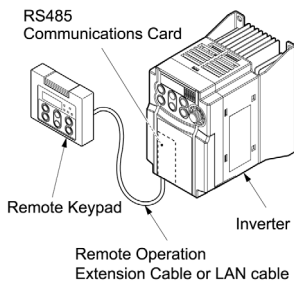
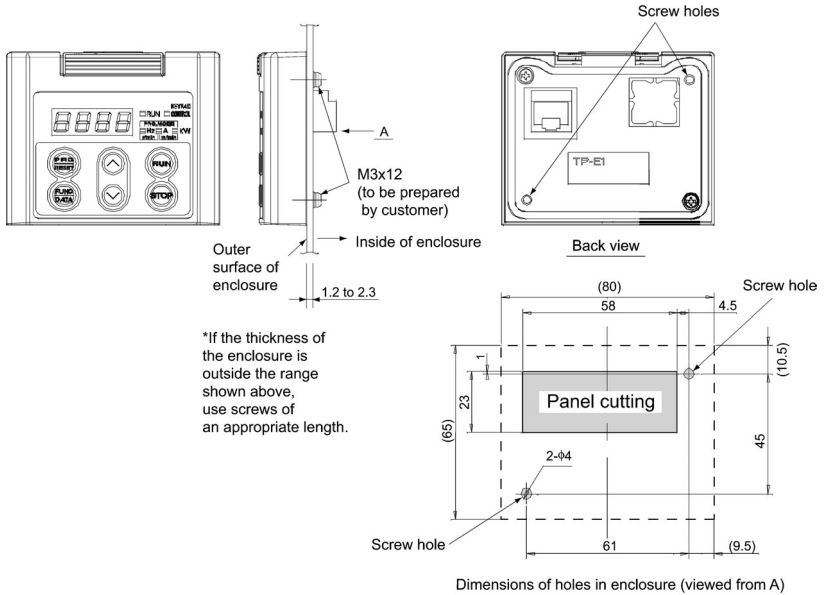

Figure 2.2 To Use the Remote Keypad in Hand
Figure 2.3 Dimensions of Square Hole and Screw Holes
- ① Cut two square holes on the enclosure as shown in Figure 2.3.
- ② Mount the Remote Keypad onto the enclosure.
- ③ Install the RS485 Communications Card on the inverter.
- ④ Insert the connector on one end of the Remote Operation Extension Cable or LAN cable into the RJ-45 modular jack on the Remote Keypad.
- ⑤ Insert the connector on the other end of the cable into the RJ-45 modular jack on the RS485 Communications Card mounted on the FRENIC-Mini.
- To use the Remote Keypad in hand (see Figure 2.2):
- ① Cut a square hole and two screw holes in the enclosure as shown in Figure 2.3.
- ② Mount the Remote Keypad TP-E1 onto the enclosure with 2 screws as shown in Figures 2.3 and 2.4.